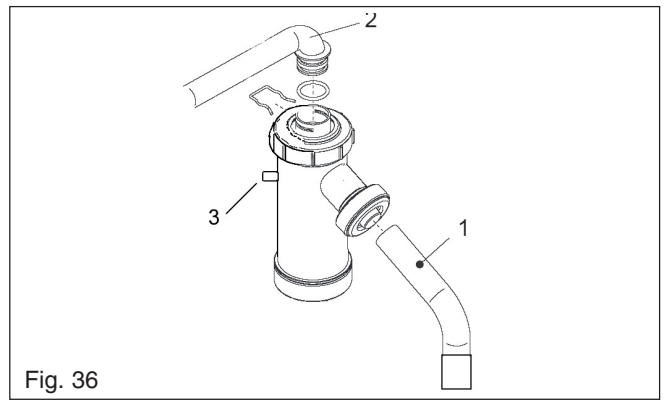

Fig. 36
6.29 CONDENSE TRAP REMOVAL fig. 36